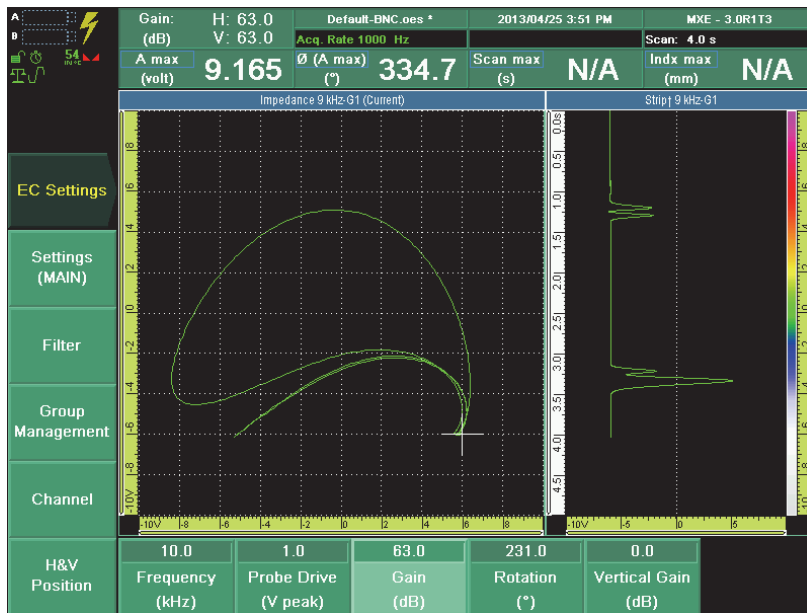

Figure 9-36 The defective fastener's signal using mixing frequency 1
5. Scan the good fastener, and then the defective fastener. In the impedance plane view, the good fastener's signal should be oriented horizontally, and the defective fastener signal should be oriented vertically (see Figure 9-36 on page 170). If not, repeat steps 5.a to 5.e to orient both signals appropriately.